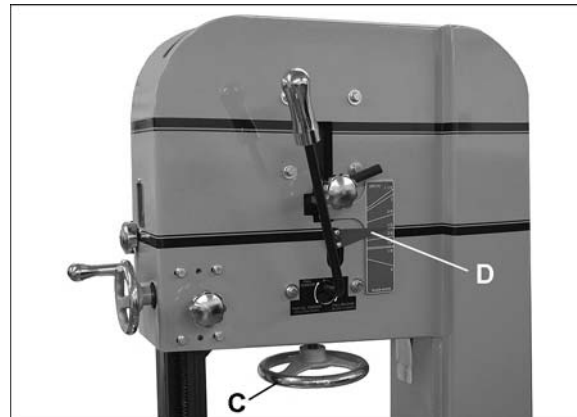

Figure 25
Refer to Figure 25.
3. With the blade centered on the wheels, move the *quick tension lever* to “Full Tension” position, as shown in Figure 25. NOTE: You will be able to feel the lever fall into each position.
4. Rotate the tension handwheel (C) until the scale pointer (D) reaches the appropriate measurement for the width of the blade.